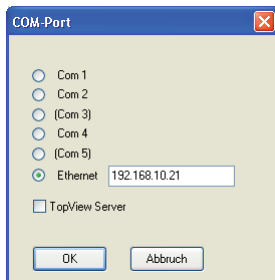

Fig.: 9.2:
- (Computer without RS-485) On the computer that is to access the RS-485 bus network via Ethernet, select "Ethernet" and enter the TCP/IP address for the other PC in the blank field (see Fig. 9.2).